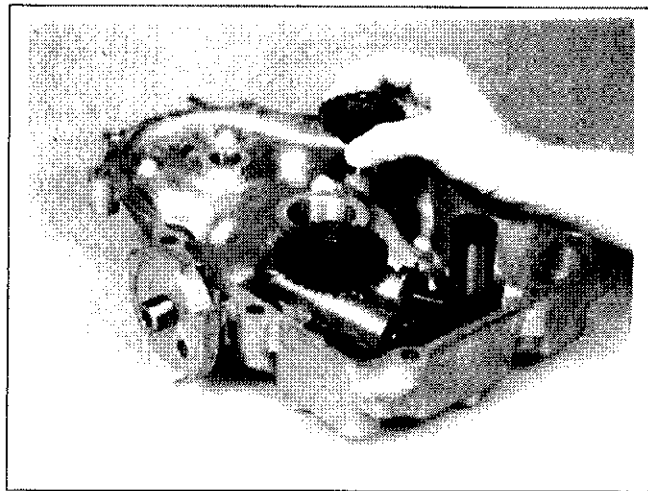

Figure 10-13. Governor Assembly.
1. Remove the regulating pin and governor gear assembly. See Figure 10-13.